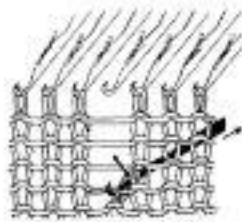

Fig. 53-2
2. Pull the tool back so that the latch closes over the strand of yarn in the hook. (Fig. 53-2 & 3)